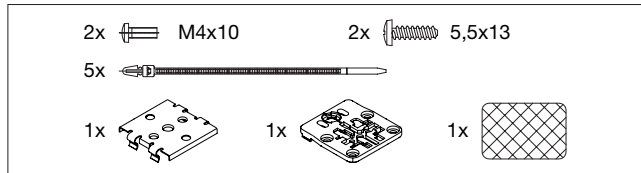

Fig. 1: Accessories provided
- Accessories provided (Fig. 1)